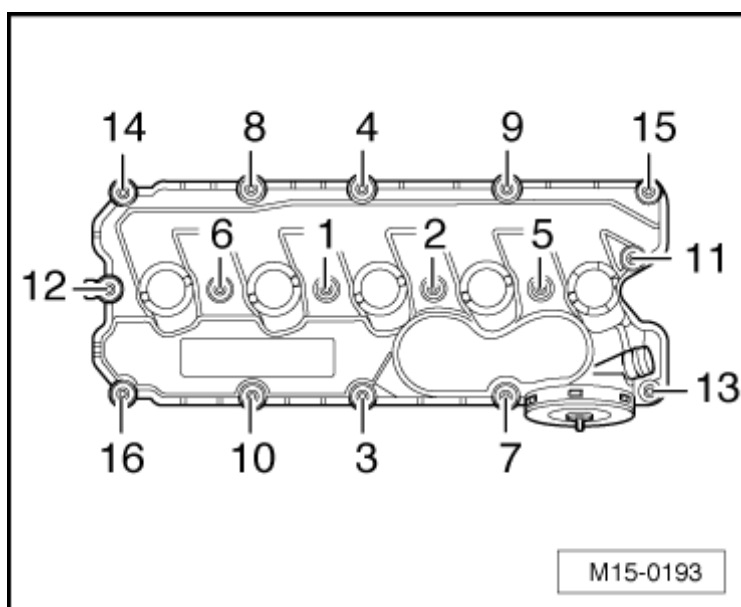

Fig. 2: Identifying Cylinder Head Cover Bolt Removal Sequence
- Tightening sequence, refer to **Fig. 2**.